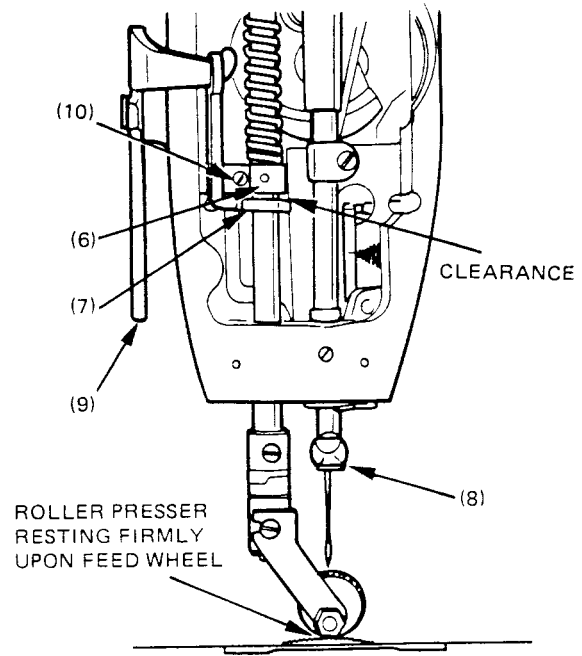

Fig. 9
2. When roller presser rests firmly upon feed wheel there should still be some clearance between guide bracket (6) and lifting lever link (7), as shown in Fig. 9.
3. When roller presser is at its highest point and needle bar at its lowest, the roller presser should clear the needle bar thread guard (8) at the lower end of needle bar.
1. Release presser bar lifting lever (9), Fig. 9, lowering the roller presser.
2. Loosen clamping screw (10), Fig. 9, and raise or lower guide bracket (6), as required.